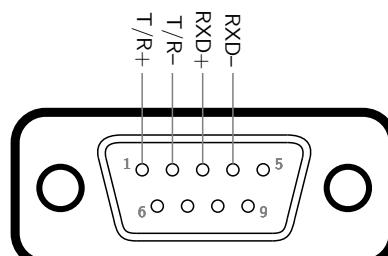

Figure 2.3: DB-9 female connector (solder side).²
1. Solder the pins on the female DB-9 connector as shown in Figure 2.3. Note that the pin numbers shown in the diagram are for the solder side of the connector.